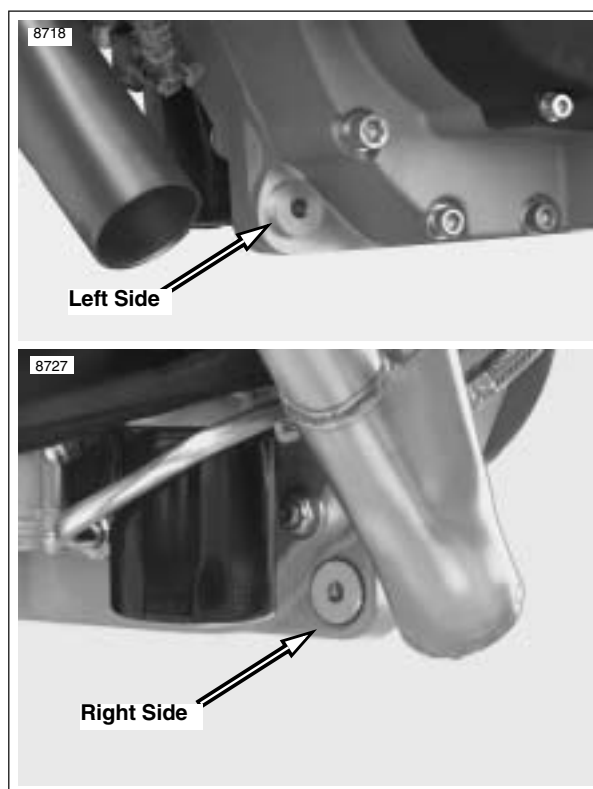

Figure 3-36. Front Exhaust Mount Bushings (2 piece)
- d. See Figure 3-36. Aluminum bushings from front exhaust mount.